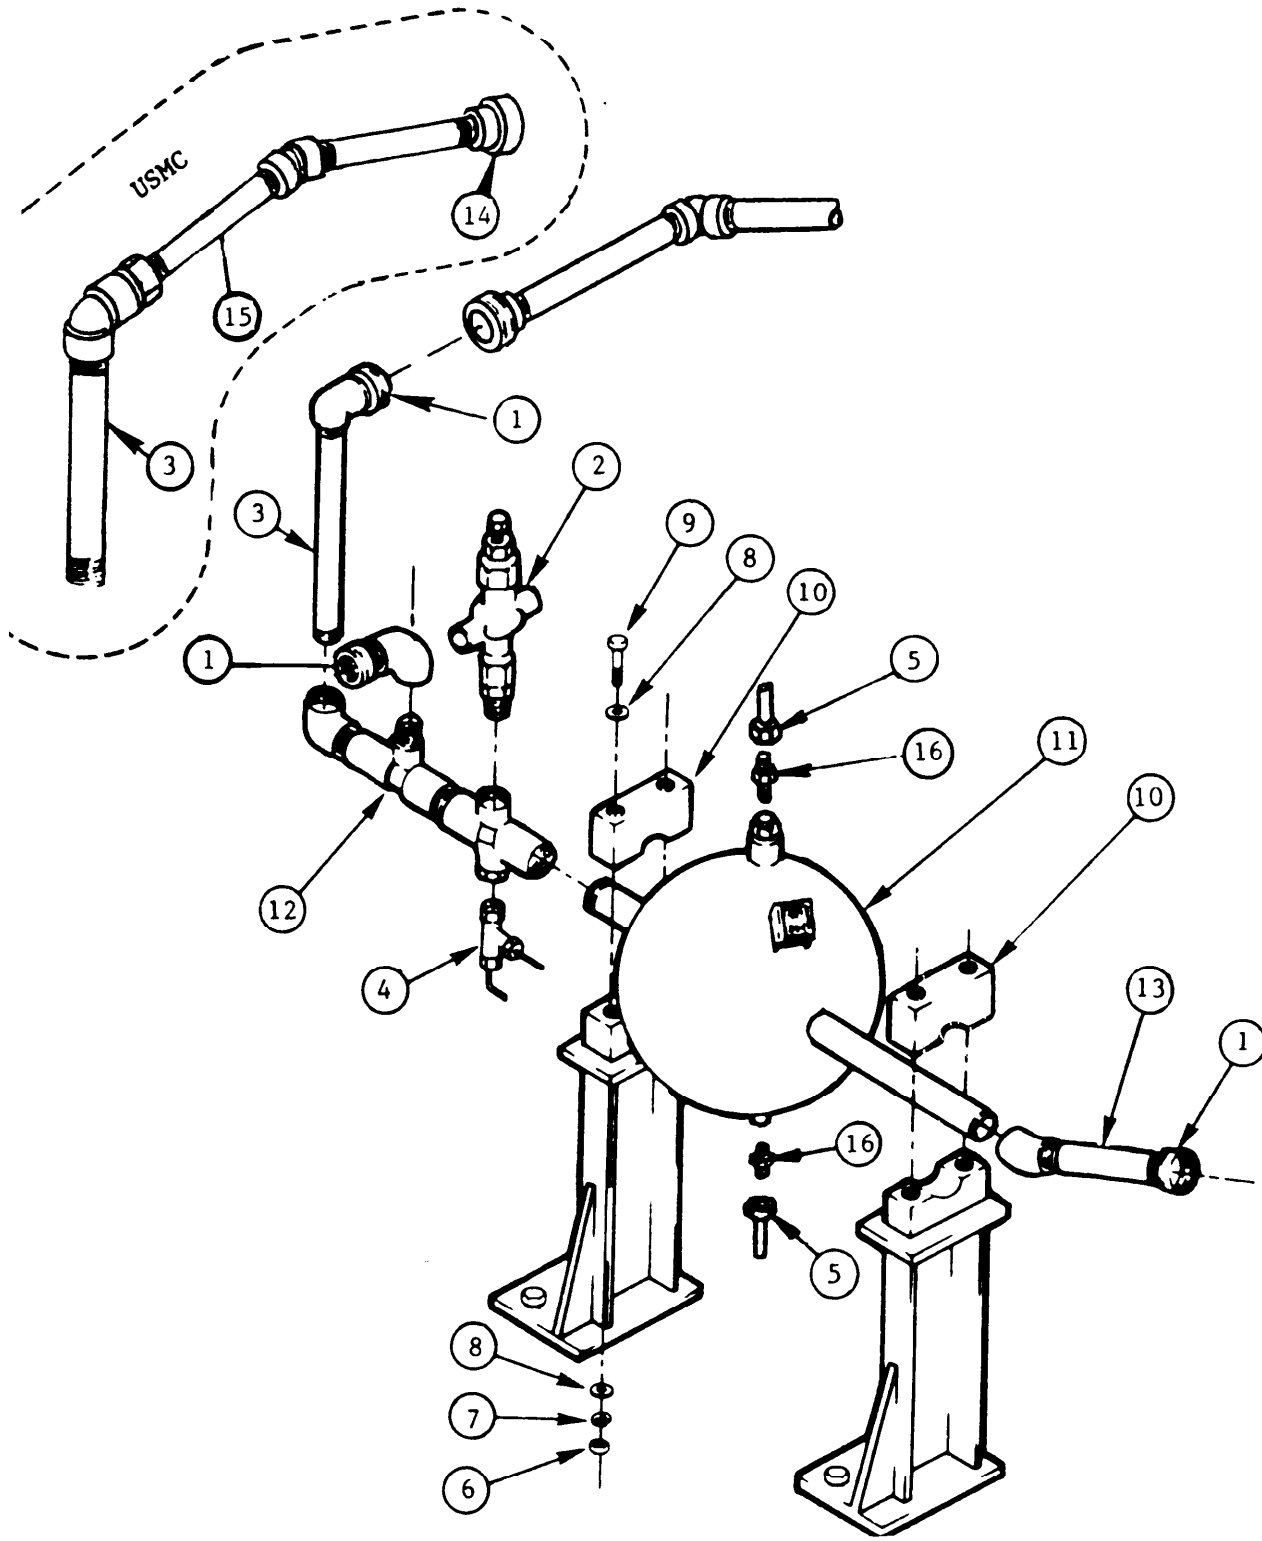

Figure 2-95. Pulse Dampener
b. Removal. (Figure 2-95)
- (1) Replace all damaged nuts, bolts, screws, and washers.
- (2) Replace damaged pipe, pipe fittings, pipe assemblies, and tube assemblies.
- (3) Replace damaged or unserviceable pulse dampener assembly.
- (4) Repair automatic pressure relief valve in accordance with paragraph 2-78.
- (5) Send damaged pulse dampener assembly to Direct Support Maintenance.
- (6) Repaint, as needed, in accordance with Standard Operating Procedures.
f. Installation. (Figure 2-95)